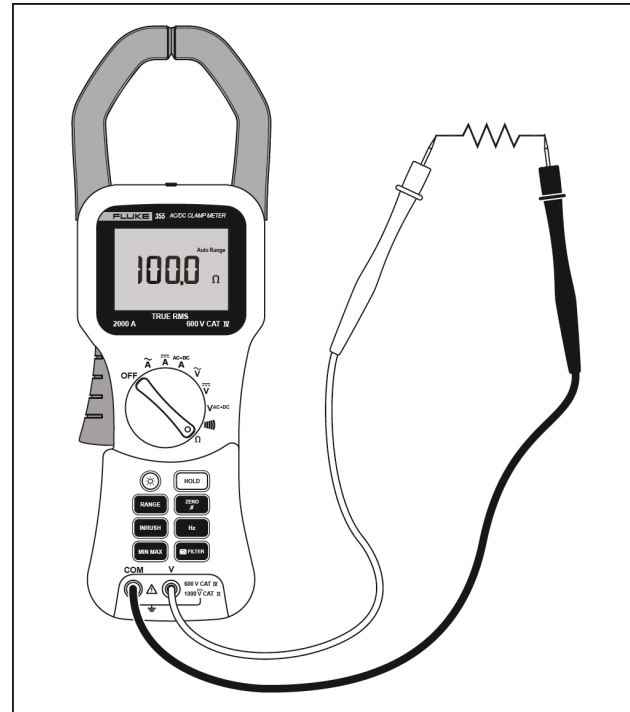

Figure 8. Measuring Resistance
5. View the reading on the display. See Figure 8.